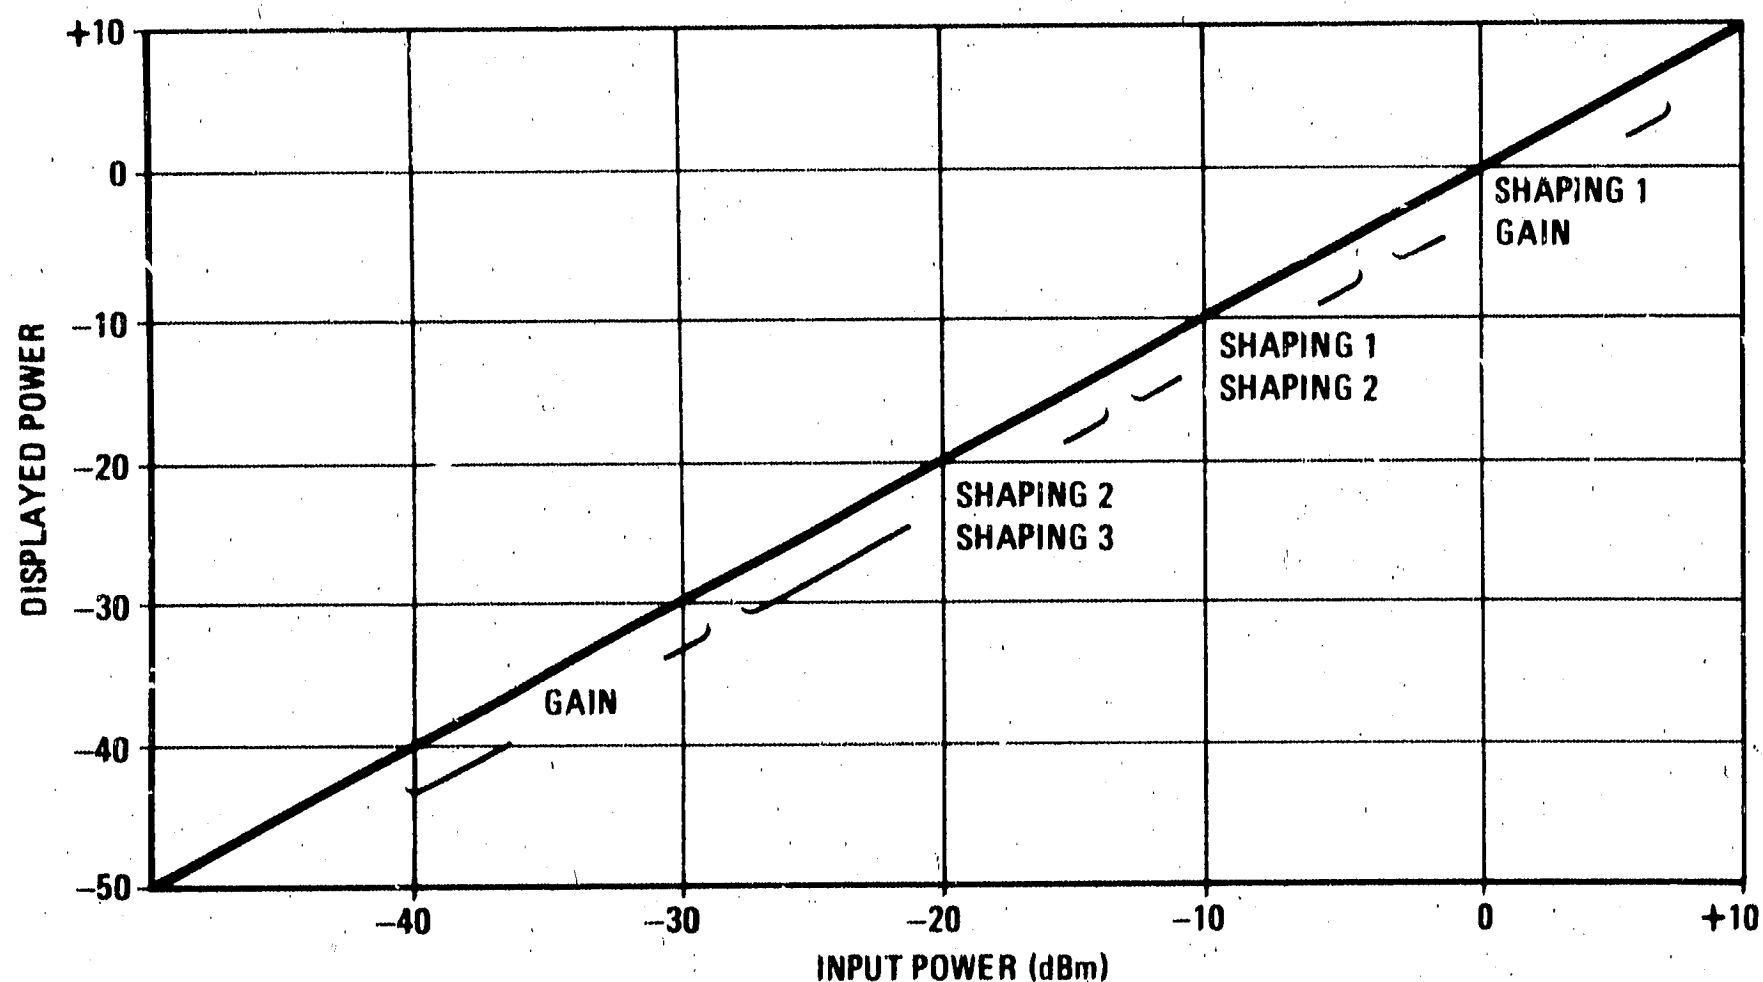

Figure 5-3. Graph for Log Amplifier Adjustment
- k. Adjust the appropriate log amplifier internal GAIN and SHAPING controls to obtain the desired amplitude response. A response curve is shown in Figure 5-3 and Table 5-2 shows the adjustments. These are included as an aid in making these adjustments. Course adjustments should be made first and then finer adjustments made until the amplitude response is within  $\pm 0.4$  dB ( $\pm$  the tolerance of the calibrated attenuators) over the 11664A/B detector input range of +10 dBm to -50 dBm.